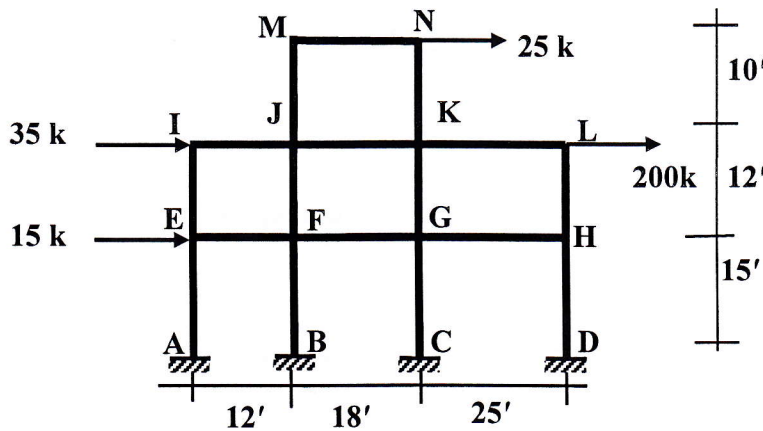

Figure 2
- [2] Determine the approximate Axial Force, Shear Force and Moment of the following columns **AE, BF, CG and DH** of the frame shown in Figure 2 by using the **Cantilever Method**.